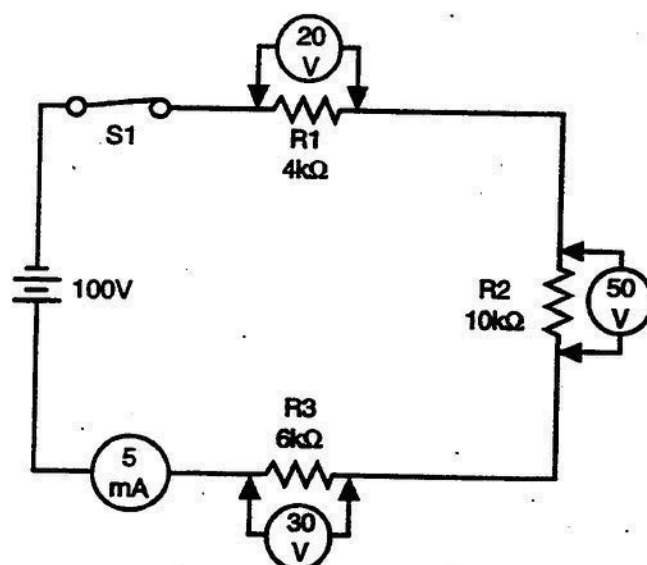

Figure 2-40. Normal series DC circuit.
**Series circuit troubleshooting.** By comparing the circuits in figures 2-40, 2-41, and 2-42, it is apparent that, even though they are designed the same, something is wrong. The same values have been assigned to all the components, but when we make the various measurements, we obtain different values.
By changing the values of the components in figure 2-40 and using Ohm's law, a faulty component can be isolated. Let us assume that  $E_a$  is 50 volts,  $R_1$  is 5 k $\Omega$ ,  $R_2$  is 7 k $\Omega$ , and  $R_3$  is 13 k $\Omega$ . Total resistance is the sum of the resistance value (or 25 k $\Omega$ ) of all components. Total current is the result of  $E_a/R_t$  according to Ohm's law or 2 mA.